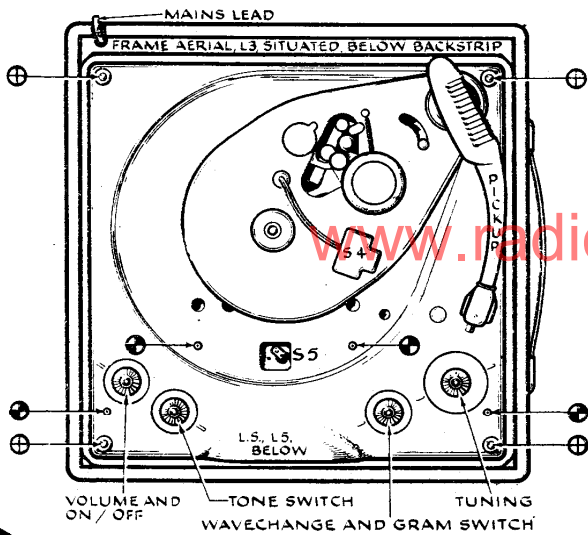

FIG. 1
- 1 Remove the 4 Motor Board fixing screws, see Fig. 1.
- 4 Remove the 4 chassis fixing screws, see Fig. 1. Chassis may now be lifted clear.
Make sure that the Mains Voltage Selector, see Fig. 1, is in the correct position to ensure maximum valve and component life.